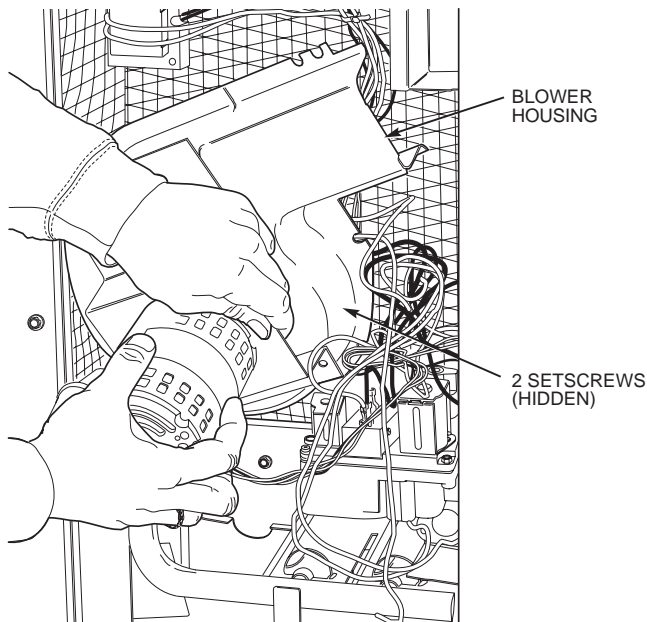

Fig. 27 — Removal of Motor and Blower Wheel
3. Slide the motor and blower wheel assembly out of the blower housing. (See Fig. 27.) Clean the blower wheel. If additional cleaning is required, continue with Steps 4 and 5.
4. To remove blower, remove 2 setscrews. (See Fig. 27.)